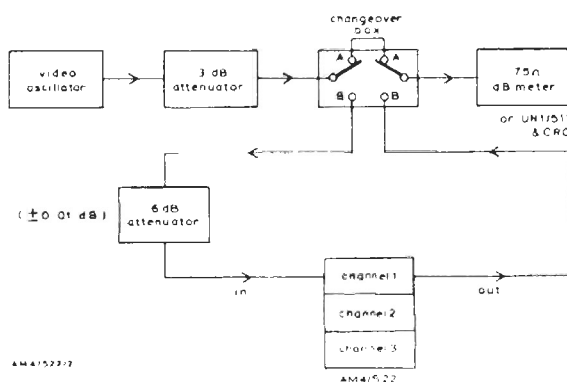

Fig. 2. Test Arrangement for Checking Gain
6. To check the gain of each channel set up the circuit of Fig. 2. The 3-dB attenuator between the oscillator and the changeover box is used to improve matching between oscillator and amplifier. Switch the changeover box to A and use the Decibel Meter or UN1/511 and oscilloscope to set the oscillator output to 0 dB at 10 kHz.